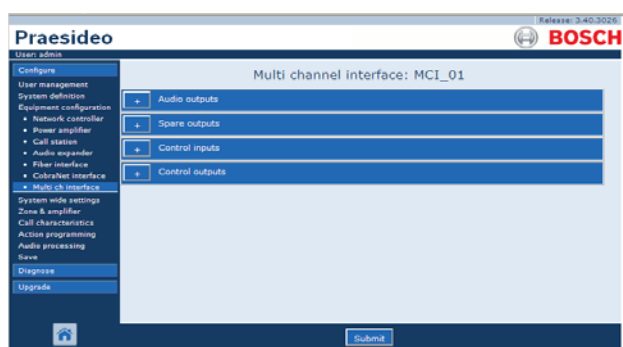

figure 43.41: Configure multi channel interface, step 2
- 2 Click the name of the multi channel interface to be configured. A screen similar to the one in figure 43.41 appears in the main frame of the web interface